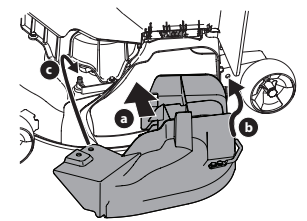

Figure 5
3. To install the mulch plug, pivot the discharge chute upward. Refer to Figure 5 for fabricated and stamped decks: